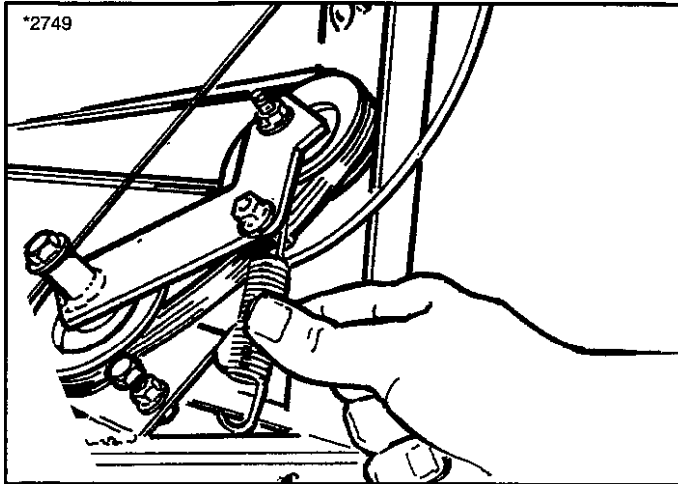

Figure 47. Reconnect Idler Pulley Tension Spring
10. Reach around to the back of the unit, and making sure the drive belt is fully engaged in all pulleys, reconnect the tension spring to the threaded stud to maintain tension on the drive belt (Figure 47).